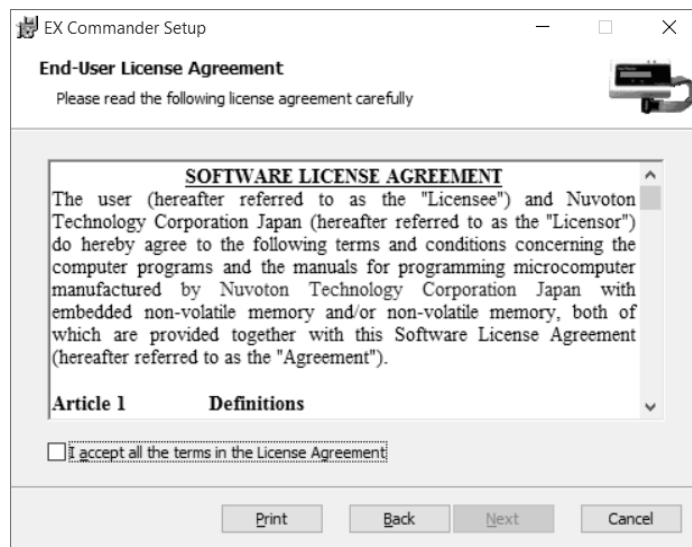

Figure 1.1.10 Software license agreement
3. The dialog shown in Figure 1.1.10 appears. Please read the following license agreement. When you accept to all articles of the licensing agreement, you add a check to [I accept all the terms in the License Agreement], and click <Next>.